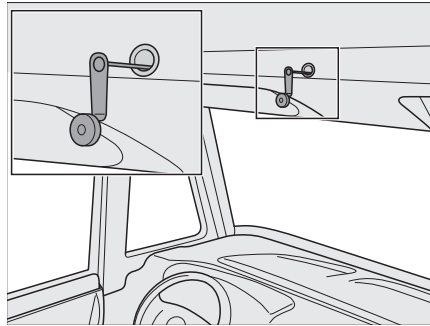

Fig. 152 Emergency operation for the electrical pull-down bed
- ▷ In the case of a power failure the electrical pull-down bed can also be moved with an emergency crank (Fig. 152). This is located in the kitchenette.